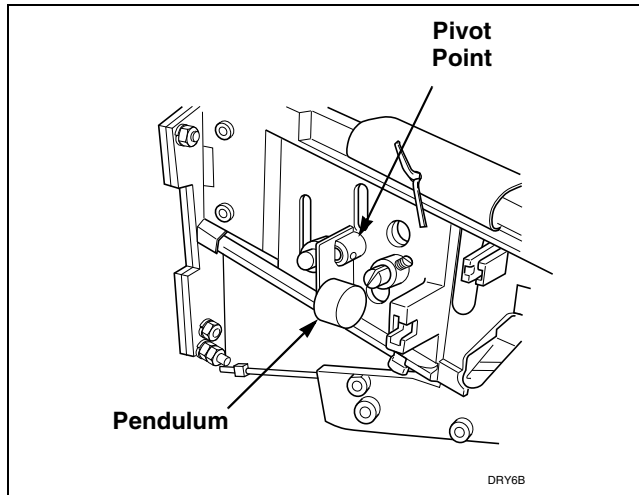

Figure 23
- i. Check coin return pendulum to verify it swings freely. If pendulum does not swing freely, spray pendulum pivot point with Teflon-based lubricant and move pendulum back and forth two to three times. An additional application of Teflon-based lubricant may be necessary to ensure that pendulum swings freely. Refer to *Figure 23*.